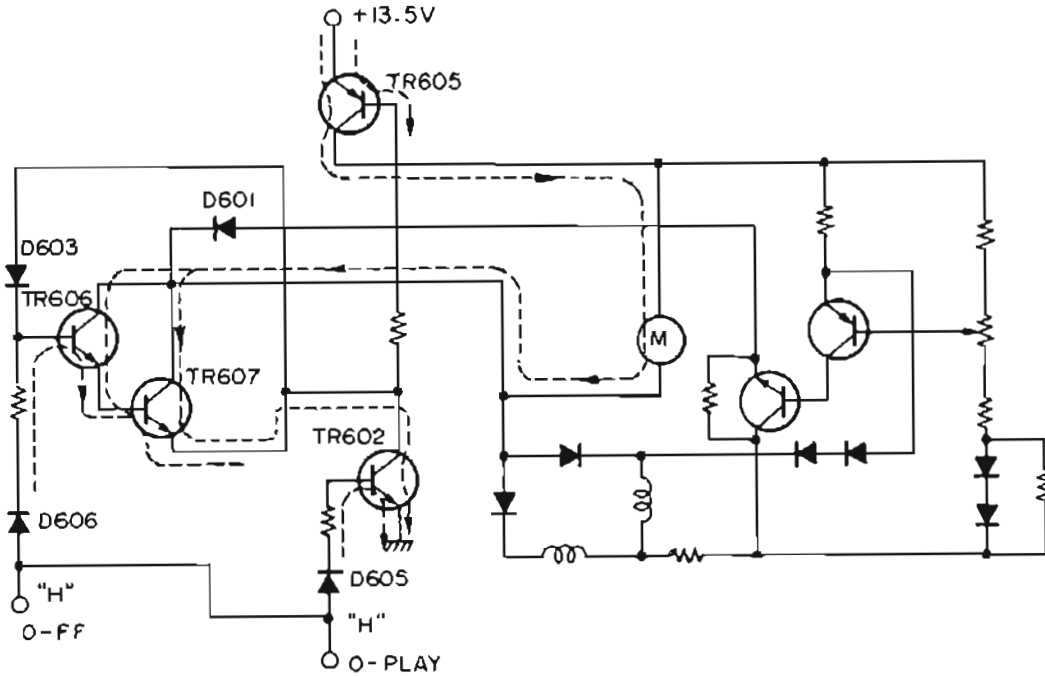

Fig. 7
The same "H" level applies to the bases of TR602 and TR606 through D605 and D606, respectively, to switch on these transistors. The resultant flows of current are as shown in Fig. 7. Load current flows through TR605, drive motor (M), TR607 and TR602, and the motor runs in normal direction to transport the tape at FF (fast-forward) speed.